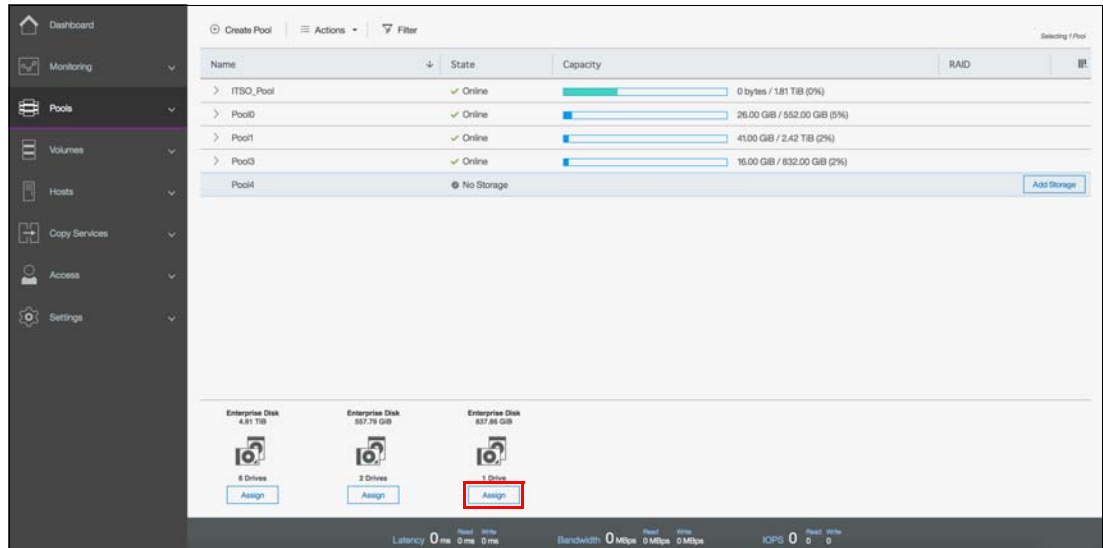

Figure 4-43 Add storage: option 3
- Option 3: Select **Assign** under a specific drive class or external storage controller, as shown in Figure 4-43 on page 165.